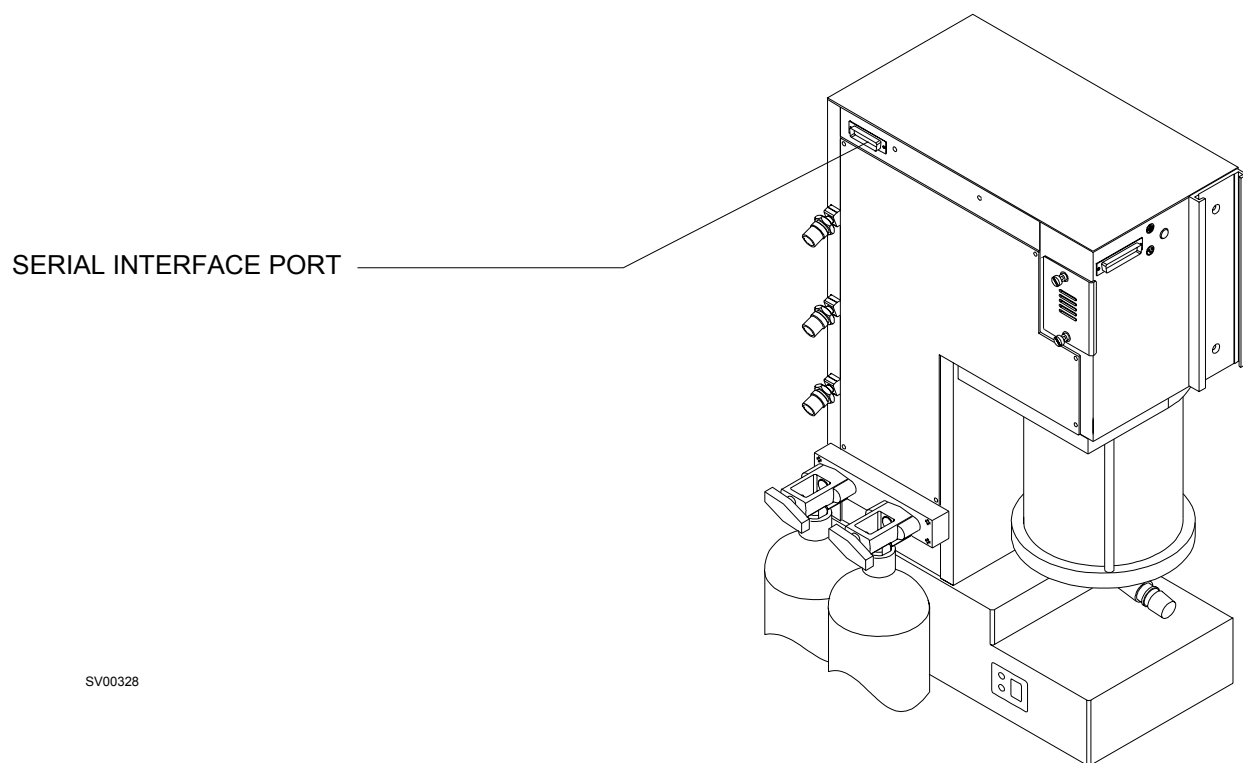

Figure 7-1. Narkomed Mobile Serial Port Location
7.2.2 Connect the appropriate interface cable (9-pin or 25-pin) to COM 1 on the PC, and connect the other end of the cable to the Narkomed Mobile serial interface port as shown in Figure 7-1.